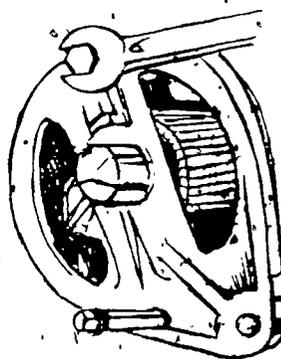

FIGURE 1
1. Remove generator thru bolts (Figure 1)